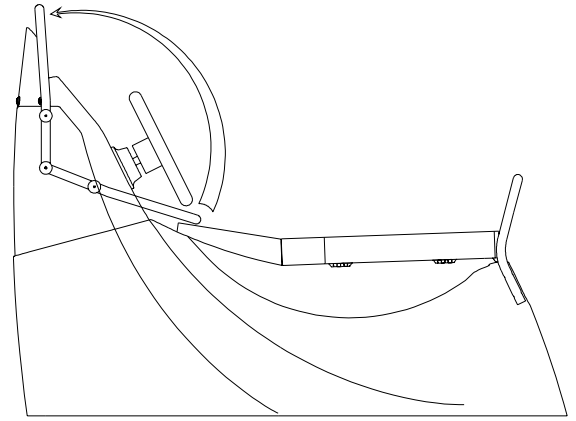

Fig. B4
4. Turn the handrail to the vertical position (See Fig.B4). Align the holes in the handrail bearings 11 (see. Fig.B5) with the holes in the console body (upper part) 2, fix the handrail 3 from the inner part with the help of bolts 12 M8x30 (pipe bearing) and M8x50 (end bearing), washers 15 (8x24) and arrester washers 16. Tighten all three bolts.
4. See. Pg.12 and Fig.B4 and B5.